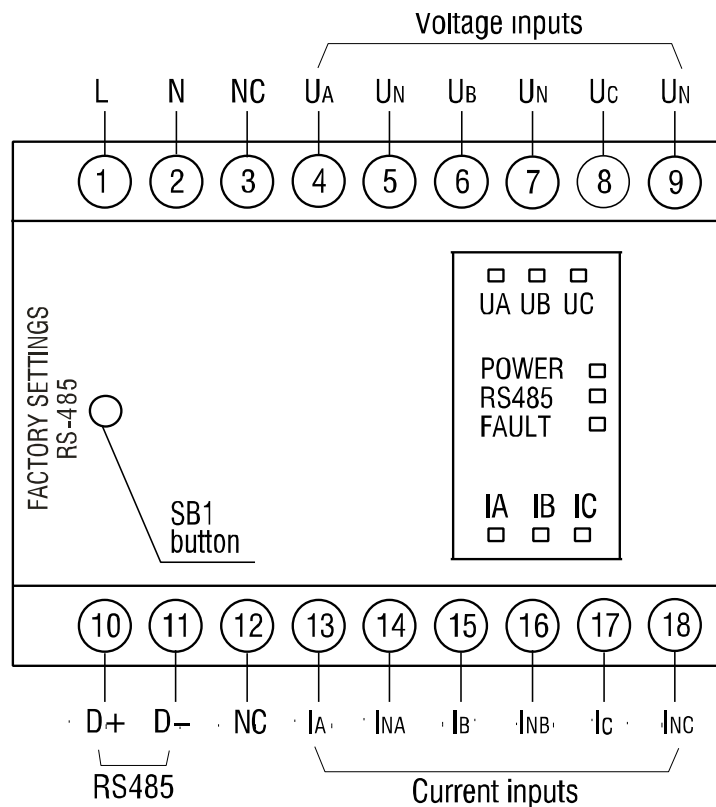

Fig. 4.1
There is the SB1 button “Factory settings” behind the left front cover (Fig. 4.1). With this button the default settings of the RS485 interface can be restored.
- The electrical connections are shown in Fig. 4.1 and the terminal assignments in Table 5.1.